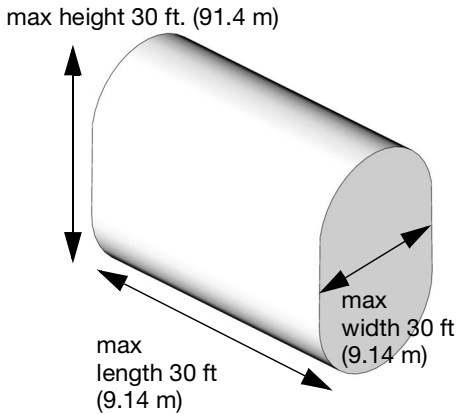

FIG. 17
- Tank end walls must be flat; they cannot be any other shape including belled (FIG. 17). If applicable, use non-standard tank.